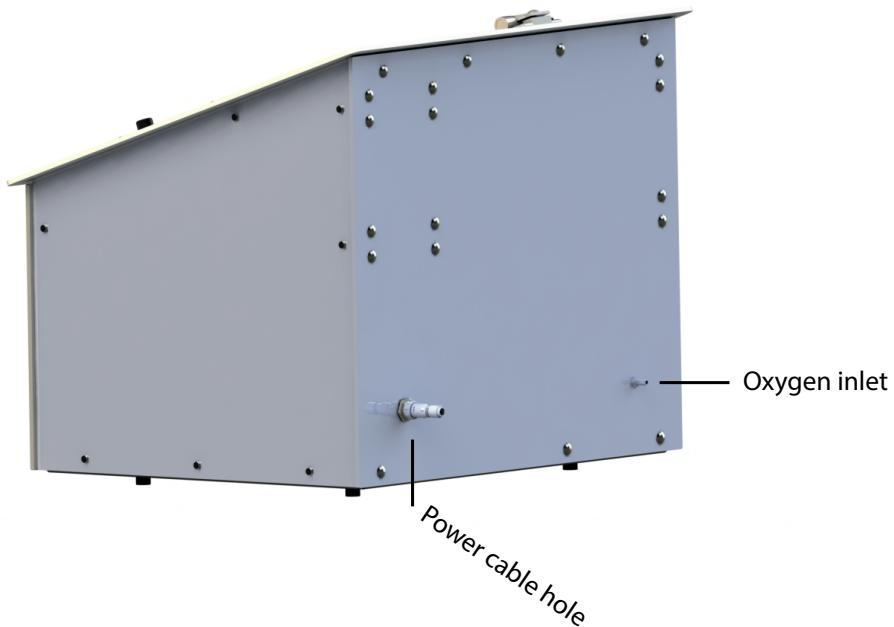
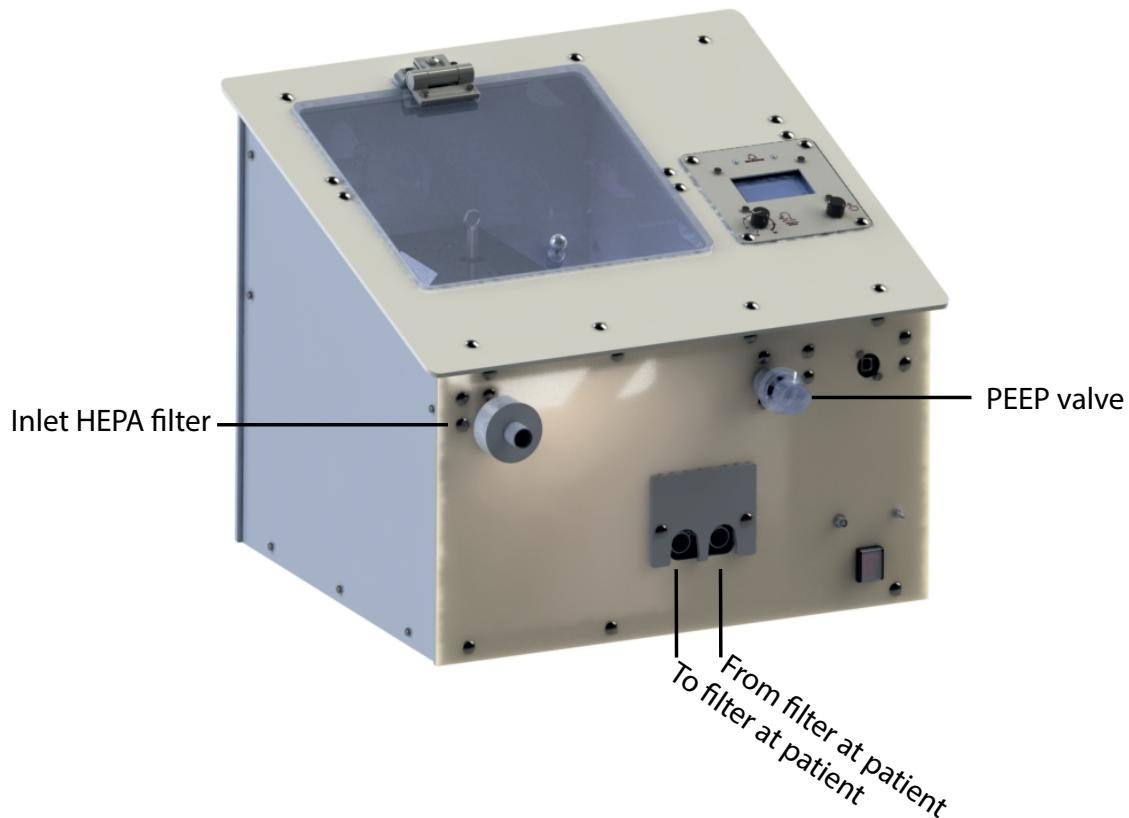
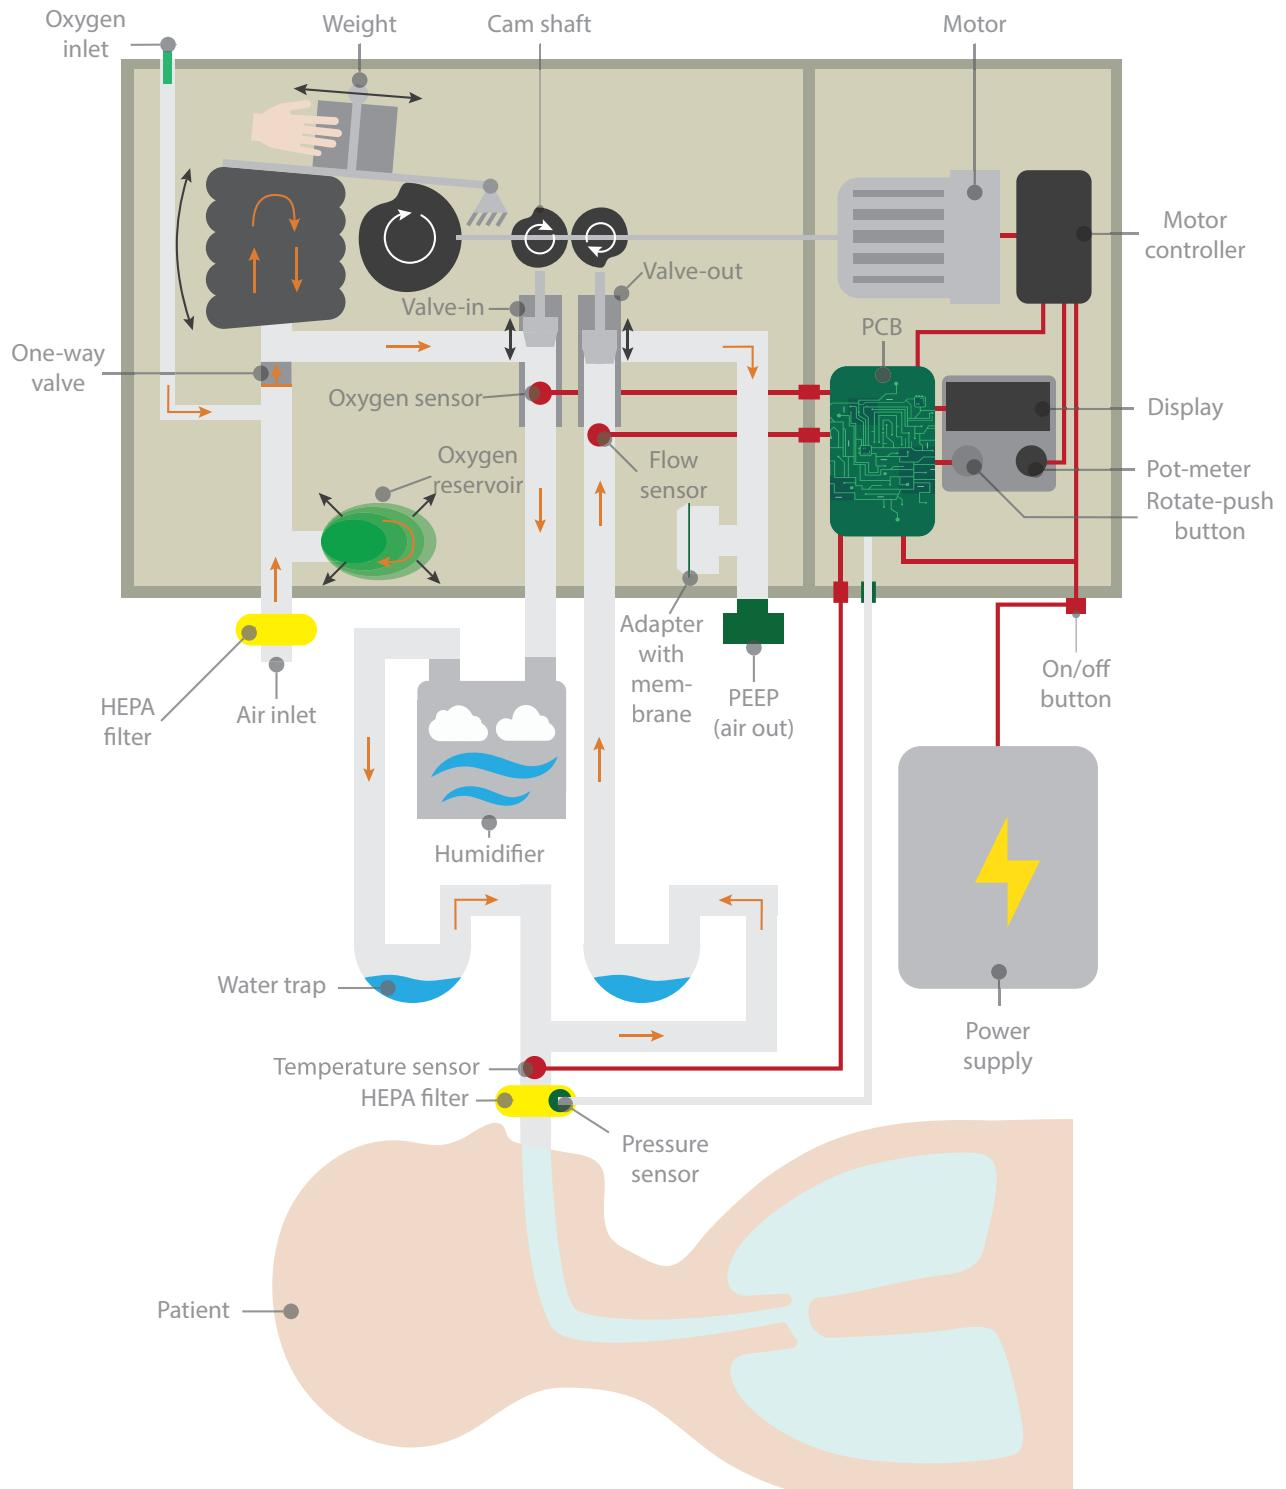

Figure 2: Overview of the back
Figure 3: Air connections to ventilator
Figure 4: Schematic overview of system with pressure sensor outside the casing
Figure 3 shows all tubing connections. All connections are designed for standard 22mm connections. Figure 4 shows an schematic overview for connecting the ventilator to a patient.
- Make sure that inside the ventilator the oxygen reservoir, adapter with membrane and all tubes are connected correctly (see Figure 4)
- Make sure that everything outside the ventilator is connected correctly (see Figure 4, Figure 3 and Figure 6. Make also sure that the oxygen is connected to the back if that is needed, see Figure 2).
1. Remove the pressure tube from the sensor, Figure 4 shows the position of this tube